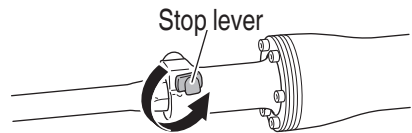

Fig. 2
- (3) Clamp the tool by turning the stop lever by half a turn in the opposite direction (**Fig.2**).